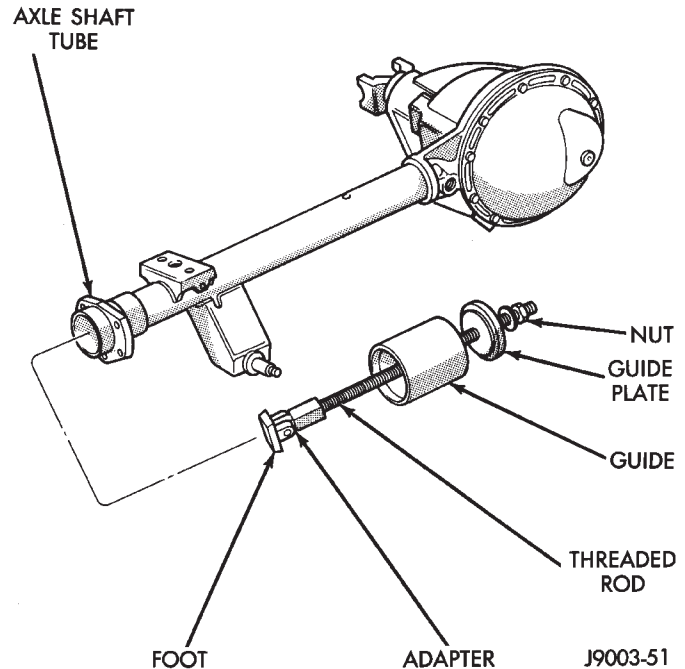

Fig. 21 Axle Shaft Bearing Removal
- (3) Remove the axle shaft bearing from the axle tube with Bearing Removal Tool Set 6310 using Adapter Foot 6310-5 (Fig. 21).
- (4) Inspect the axle shaft tube bore for roughness and burrs. Remove as necessary.